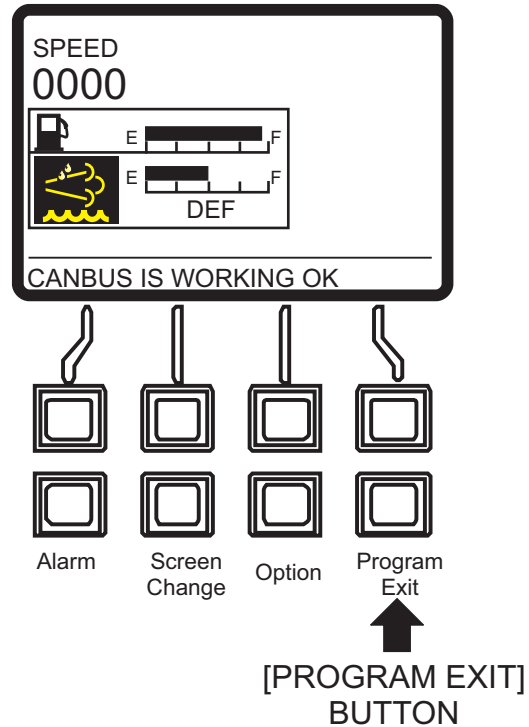

Figure 91. Main Screen
3. Press the [Program/Exit] button (Figure 91) to enter the Main Menu.